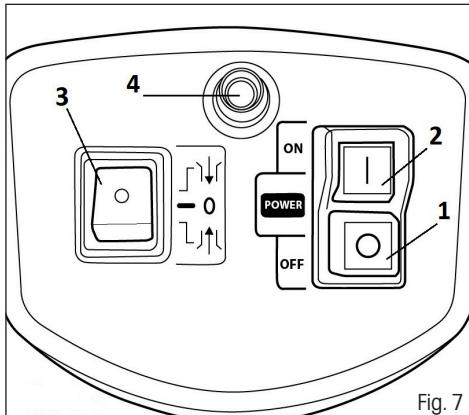

Fig. 7
Turning the shredder on and off (Fig. 7)
- ✿ To turn on the shredder, press the button with the "I" symbol. Fig. 7., point 2
- ✿ To turn off the shredder, press the button with the "O" symbol. Fig. 7., point 1
Forward / reverse rotation switch (Fig. 7, point 3)
- ❖ The shredder is equipped with overload protection (Fig. 7, point 4)
4. Press the safety fuse button (Fig. 7, point 4).